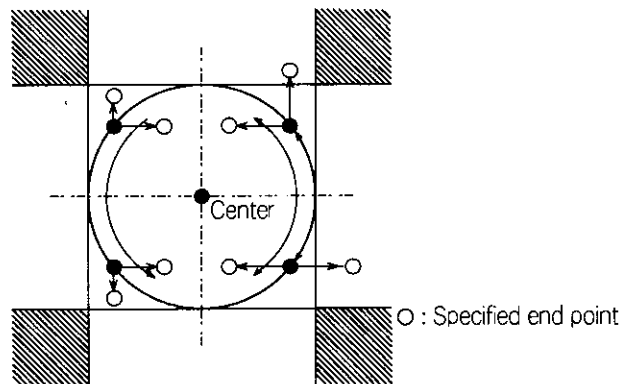

Fig. 4.8
- (a) If the end point is off the circumference because of calculation tolerance, this component moves as shown in Fig.4.8. Initially, it moves to a certain point on the circumference (● in Fig.4.8), and then moves to the specified end point (○ in Fig.4.8)